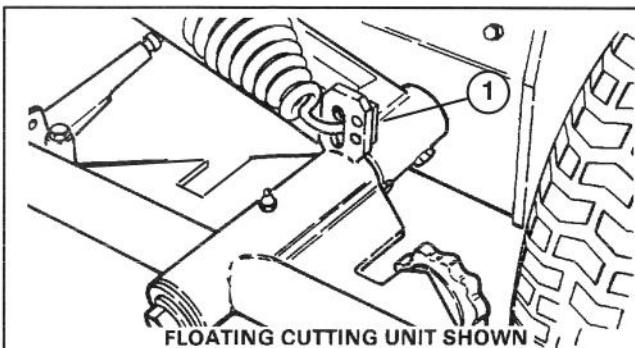

Figure 18
1. Hook one end of spring into second hole (from bottom) on cutting unit lift tab (Fig. 18).